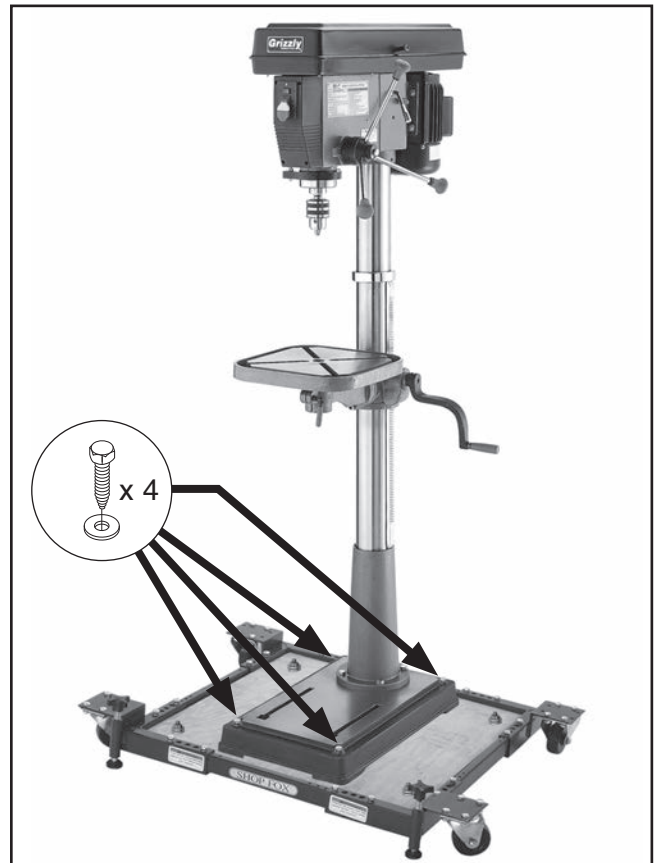

Figure 13. Drill press bolted to mobile base, using lag bolts and flat washers.
9. Mount drill press to base plate with lag bolts and flat washers, as shown in **Figure 13**, or with through bolts, flat washers, and hex nuts.